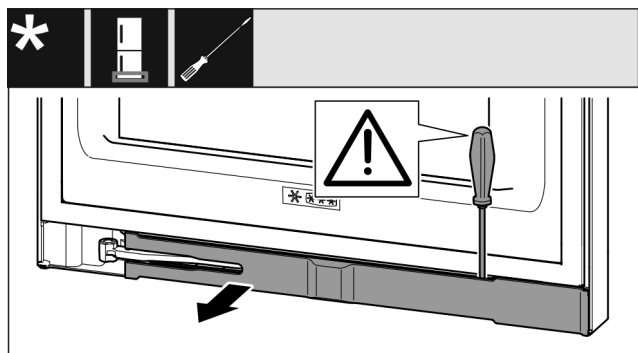

Fig. 15
- Use a slotted screwdriver to unlatch the trim and swing it to the side. (see Fig. 15)